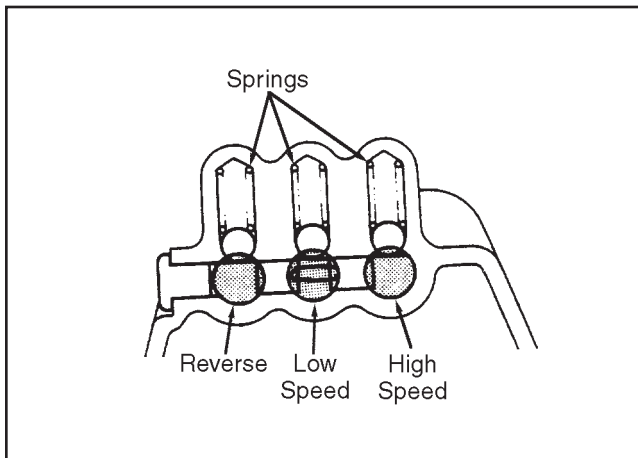

Figure 4G-22. Spring and Locating Ball Assembly
5. Holes for installing the interlock steel balls are in the side wall, next to the reverse shifter fork shaft, of the transmission case. Be sure to feed in one ball after another, positioning each ball between two adjacent shafts, as shown in Figure 4G-24.